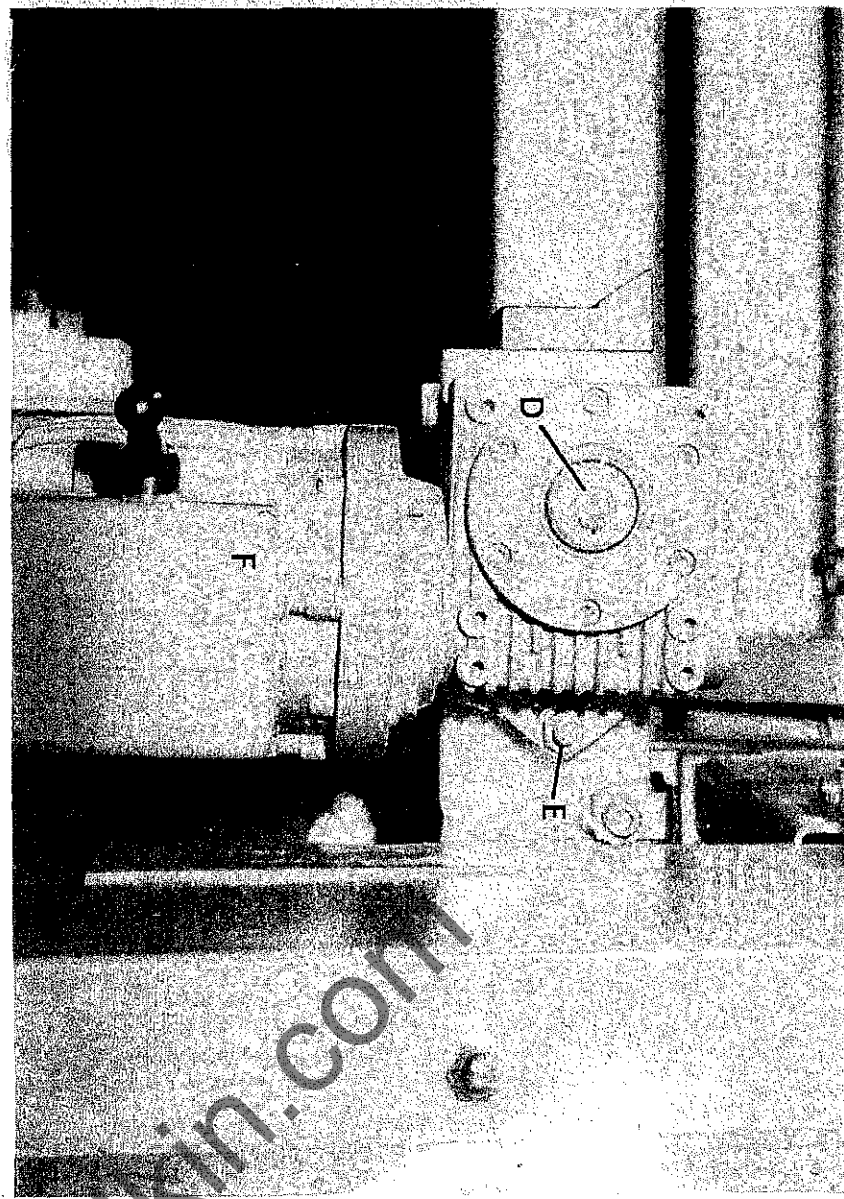

Fig 36
- 9) Remove M10 hexagon bolt and washer "D" FIG.36 (Rear of thickneser table).
- 10) Remove M10 nut and washer "E" FIG.36 (Rear of thickneser table).